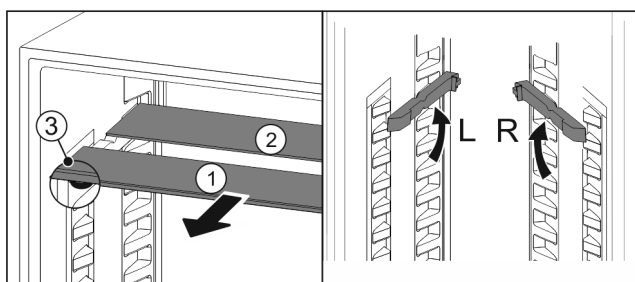

Fig. 76
- Pull the glass panels out Fig. 76 (1) from the front, one at a time.
- ▷ The glass panel Fig. 76 (1) and trim strip are at the front.
- ▷ The stops Fig. 76 (3) point down.